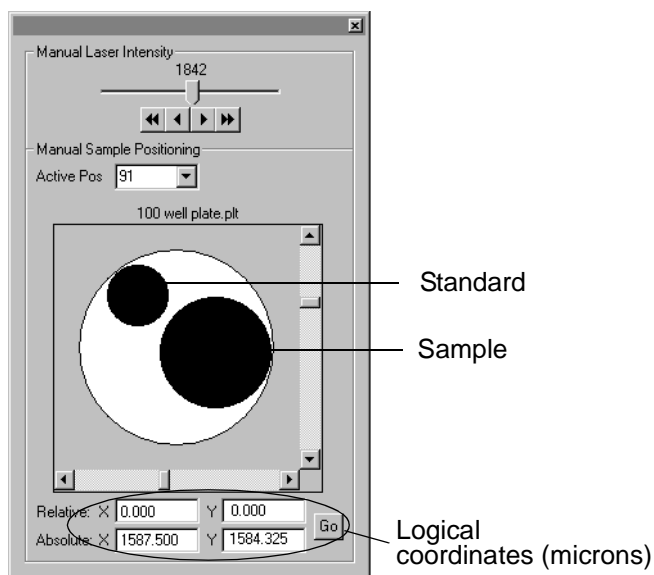

Figure 7-9 Location of Sample and External Standard for Maximum Mass Accuracy (Without Using the Optimize Mass Accuracy Option)
You may see improved mass accuracy by spotting sample and standard in as close together as possible within a sample position (Figure 7-9). A standard spot within 1 mm of a sample spot can yield mass accuracy close to that expected for internal calibration.
To run samples spotted as illustrated in Figure 7-9 (assuming that subsequent positions are spotted in the same way), set up the run list as shown in the following table.
1. Spot sample and standard as close to each other as possible (within 1 mm) (see Figure 7-9 on page 7-37).
NOTE: Use plates without laser-etched sample positions if you spot standard and sample as shown in Figure 7-9.
NOTE: Use plates without laser-etched sample positions if you spot standard and sample as shown in Figure 7-9 on page 7-37.